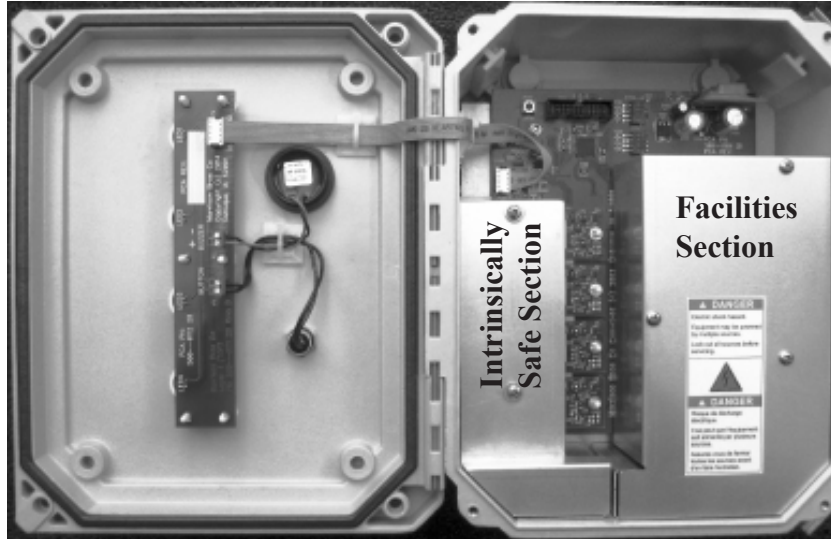

Figure 1 Basic Layout of the 918AC
- b. Remove and retain the two screws with their flat washers. Remove the metal cover of the intrinsically safe section (see Figure 1).
- a. **Remove the cover** over the Facilities section of the System Interface (see Figure 1).